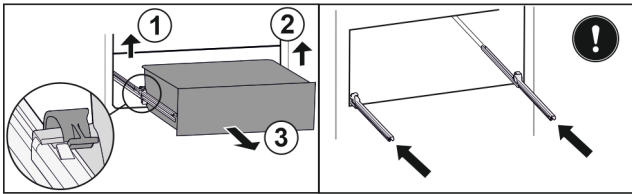

Fig. 31
- ▶ Lift left clamp and simultaneously pull drawer forwards on the left. Fig. 31 (1)
- ▶ Lift right clamp and simultaneously pull drawer forwards on the right. Fig. 31 (2)
- ▶ Remove drawer to the front. Fig. 31 (3)